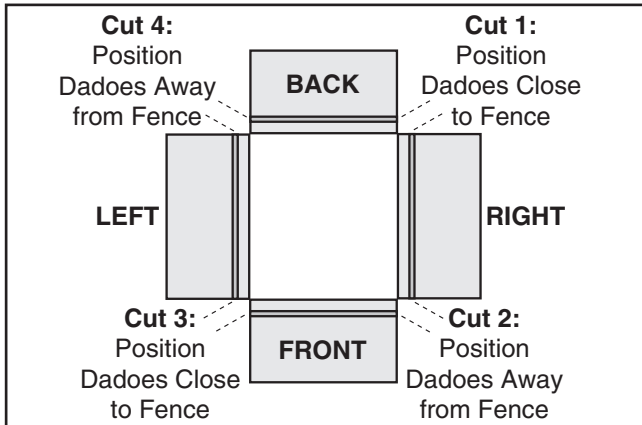
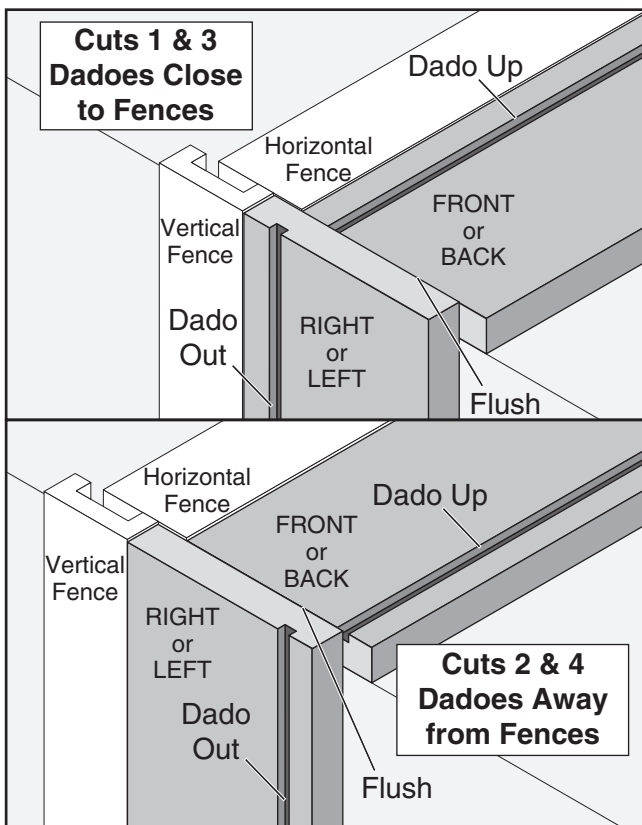

Figure 44. Drawer pieces laid out and marked inside face up; cutting order and workpiece position against fences also shown.
Figure 45. Workpiece positions for cuts.
The standard cutting order is shown in **Figure 44**. **Figure 45** shows the workpieces positioned with the dadoses close to or away from the fences.
1. Position the **RIGHT** workpiece on the vertical support bar as shown in the top illustration in **Figure 45** (with the dado positioned close to the fence), then clamp down the **RIGHT** workpiece.
2. Place the **BACK** workpiece on the horizontal table as shown in the top illustration in **Figure 45** (with the dado positioned close to the fence), then clamp down the **BACK** workpiece. The top of both workpieces should be flush with each other.